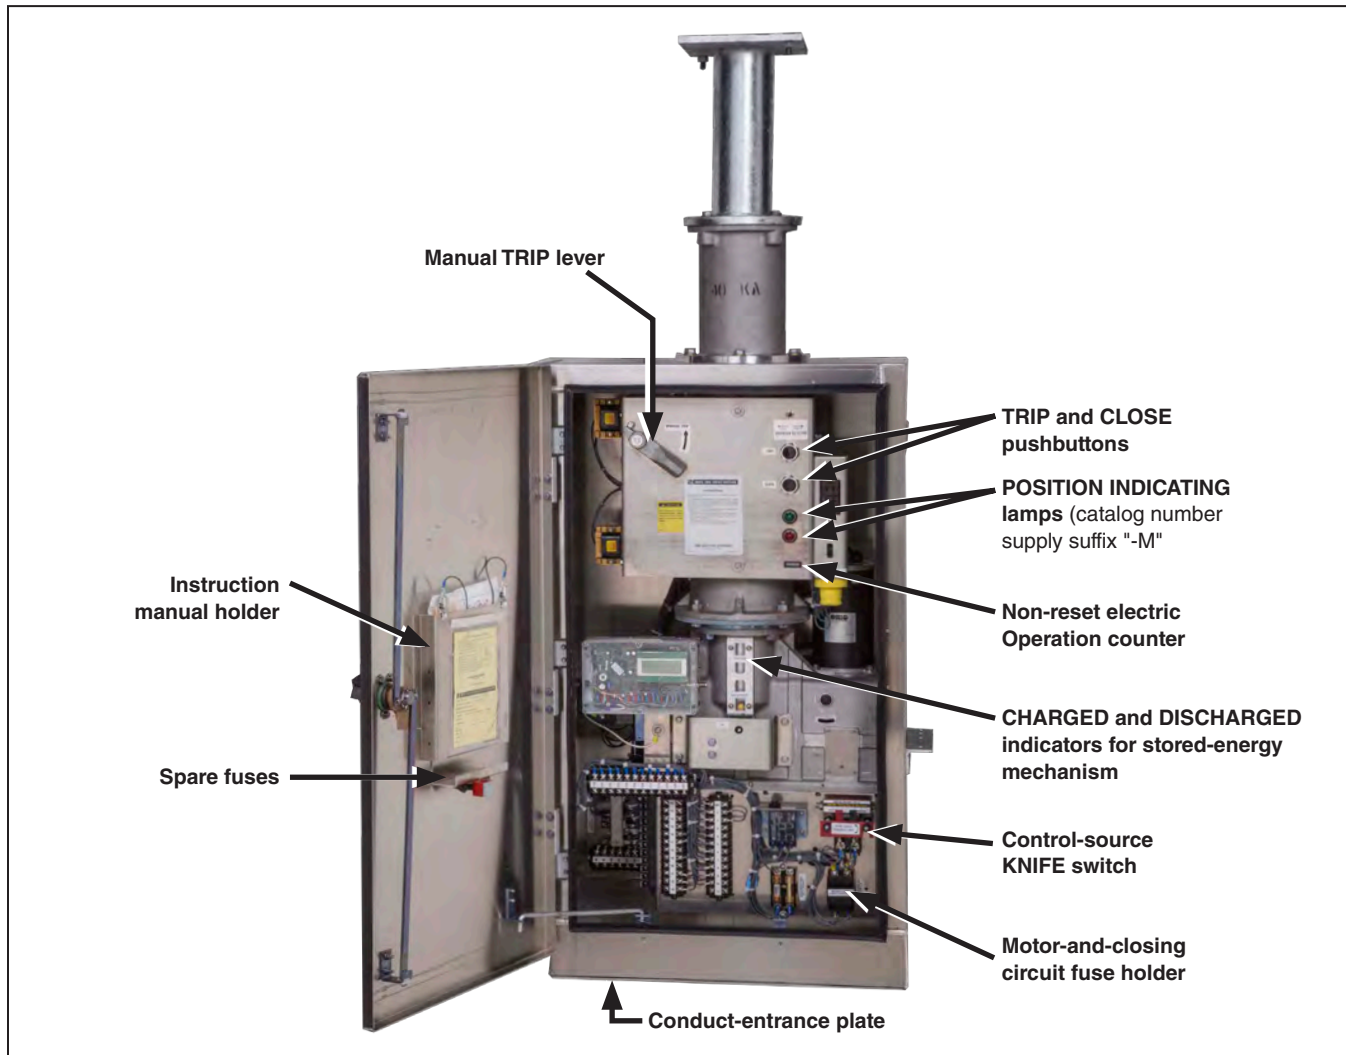
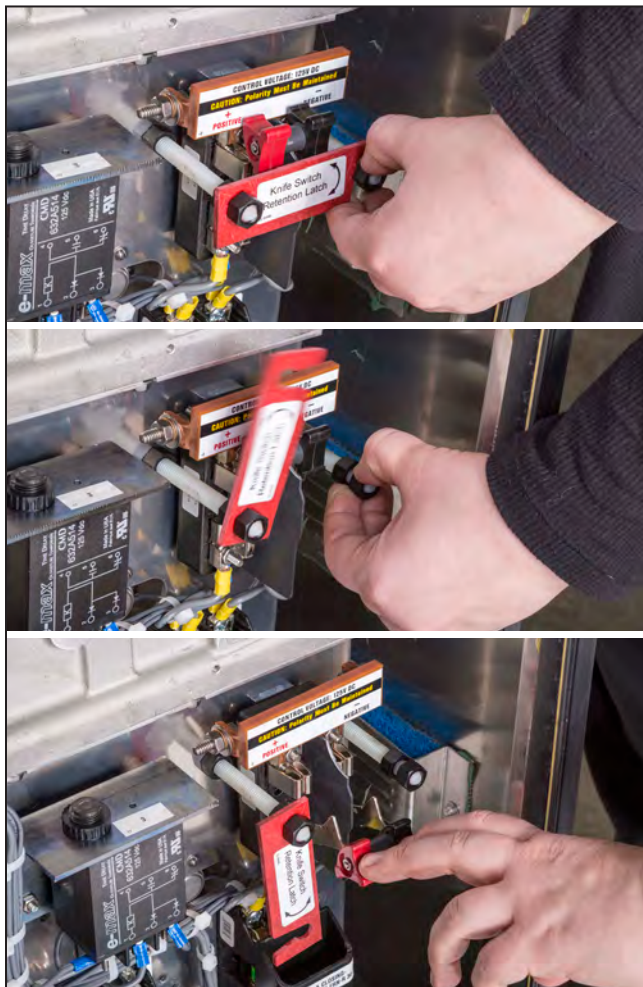
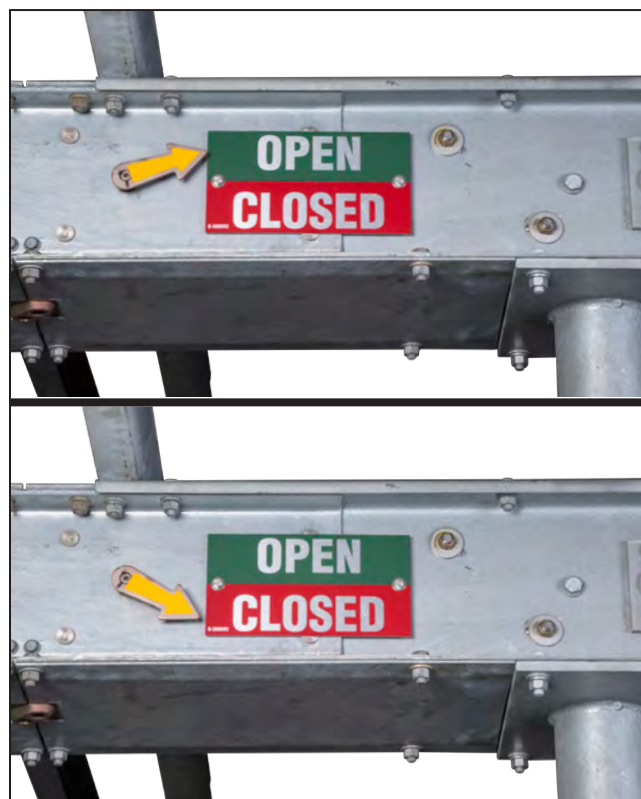
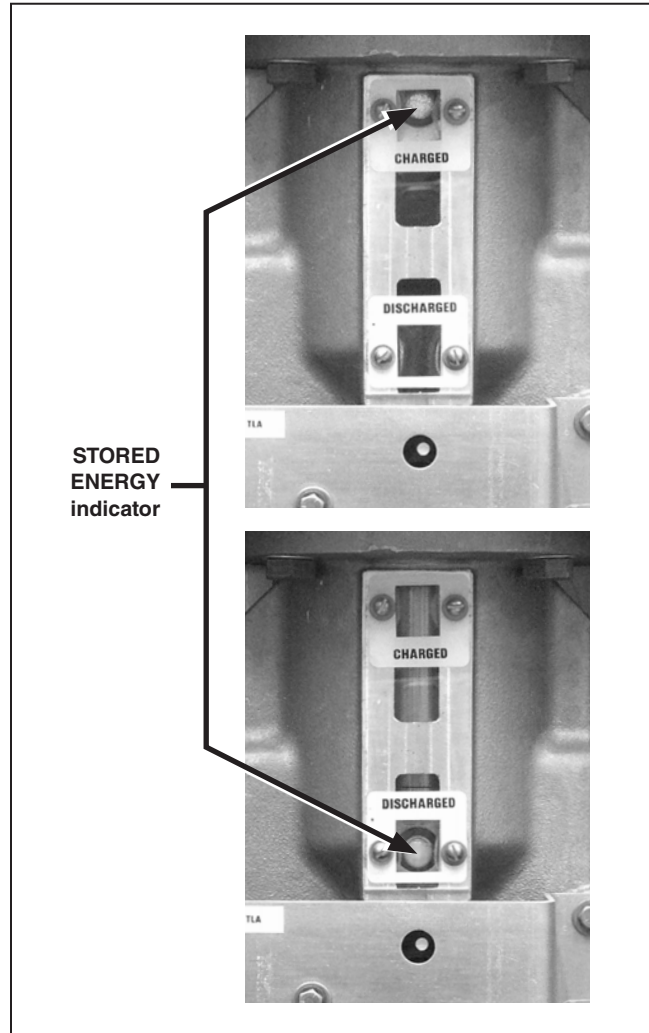

Figure 16. Interior of the switch operator.
Figure 17. The KNIFE switch retainer and KNIFE switch.
Figure 25. The SWITCH POSITION indicator in the Open position (top). The SWITCH POSITION indicator in the Closed position (bottom).
Figure 26. The STORED ENERGY indicator.
- STEP 1.** Perform the following set-up procedure on the operator. See Figure 16 on page 20 and Figures 17 and 18 on page 21.
- To avoid accidentally energizing the operator after the external connections have been completed, open the control power KNIFE switch, and swing the KNIFE switch retainer arm out of the way by putting pressure on the red insulated retainer and the black nylon retainer nut. The KNIFE switch retainer arm will “pop up” and can then be swung out of the way. See Figure 17 on page 21.
- (b) Mark the conduit-entrance location for the control-circuit wiring on the conduit-entrance plate in the bottom of the operator enclosure. See Figure 16. Remove the plate and cut out the necessary opening.
STEP 6. Press the CLOSE pushbutton or send a **Close** command to the switch operator. See Figure 16 on page 20. (TRIP and CLOSE pushbuttons are not included on operators specified with catalog number suffix “-J.” In such instances, momentarily touch a jumper between terminals 1 and 3 to close the circuit-switcher.)
The closing latch will release, discharging the closing spring. This action closes the interrupters. The SWITCH POSITION indicator on the high-speed base will move to the **Closed** position. See Figure 25 on page 25. If the POSITION INDICATING lamp option has been specified, the red lamp will light. See Figure 16 on page 20.
To open the circuit-switcher: Press the TRIP push-button or send a remote trip signal to the switch operator. See Figure 16 on page 20.
The opening latch in the stored-energy mechanism will release, discharging the opening spring. This action trips the interrupters and forces the opening and closing pistons in the mechanism downward, which can be seen in the STORED ENERGY indicator's **Discharged** window inside the operator. See Figure 26 on page 26.
The SWITCH POSITION indicator on the high-speed base will move to the **Open** position. See Figure 25. If the POSITION INDICATING lamp option (catalog number suffix “-M”) has been specified, the green lamp will light.
To close the circuit-switcher: Press the CLOSE pushbutton or send a remote close signal to the switch operator. See Figure 16 on page 20.
The motor-driven cam in the stored-energy mechanism will immediately start retracting. The closing latch will release, discharging the closing spring. This action closes the interrupters. The SWITCH POSITION indicator on the high-speed base will move the **Closed** position. See Figure 25. If the POSITION INDICATING lamp option has been specified, the red lamp will light.
To trip the interrupters, push the manual TRIP lever counterclockwise as indicated by the TRIP lever label. See Figure 16 on page 20. The opening latch in the stored-energy mechanism will release, discharging the opening spring. This action trips the interrupters and forces the opening and closing pistons in the mechanism downward, as denoted by movement of the STORED ENERGY indicator to the **Discharged** window. (See Figure 26.)
The SWITCH POSITION indicator on the high-speed base will move to the **Open** position. (See Figure 25 on page 25.) If the POSITION INDICATING lamp option has been specified, and operator control voltage is available, the green lamp will light.